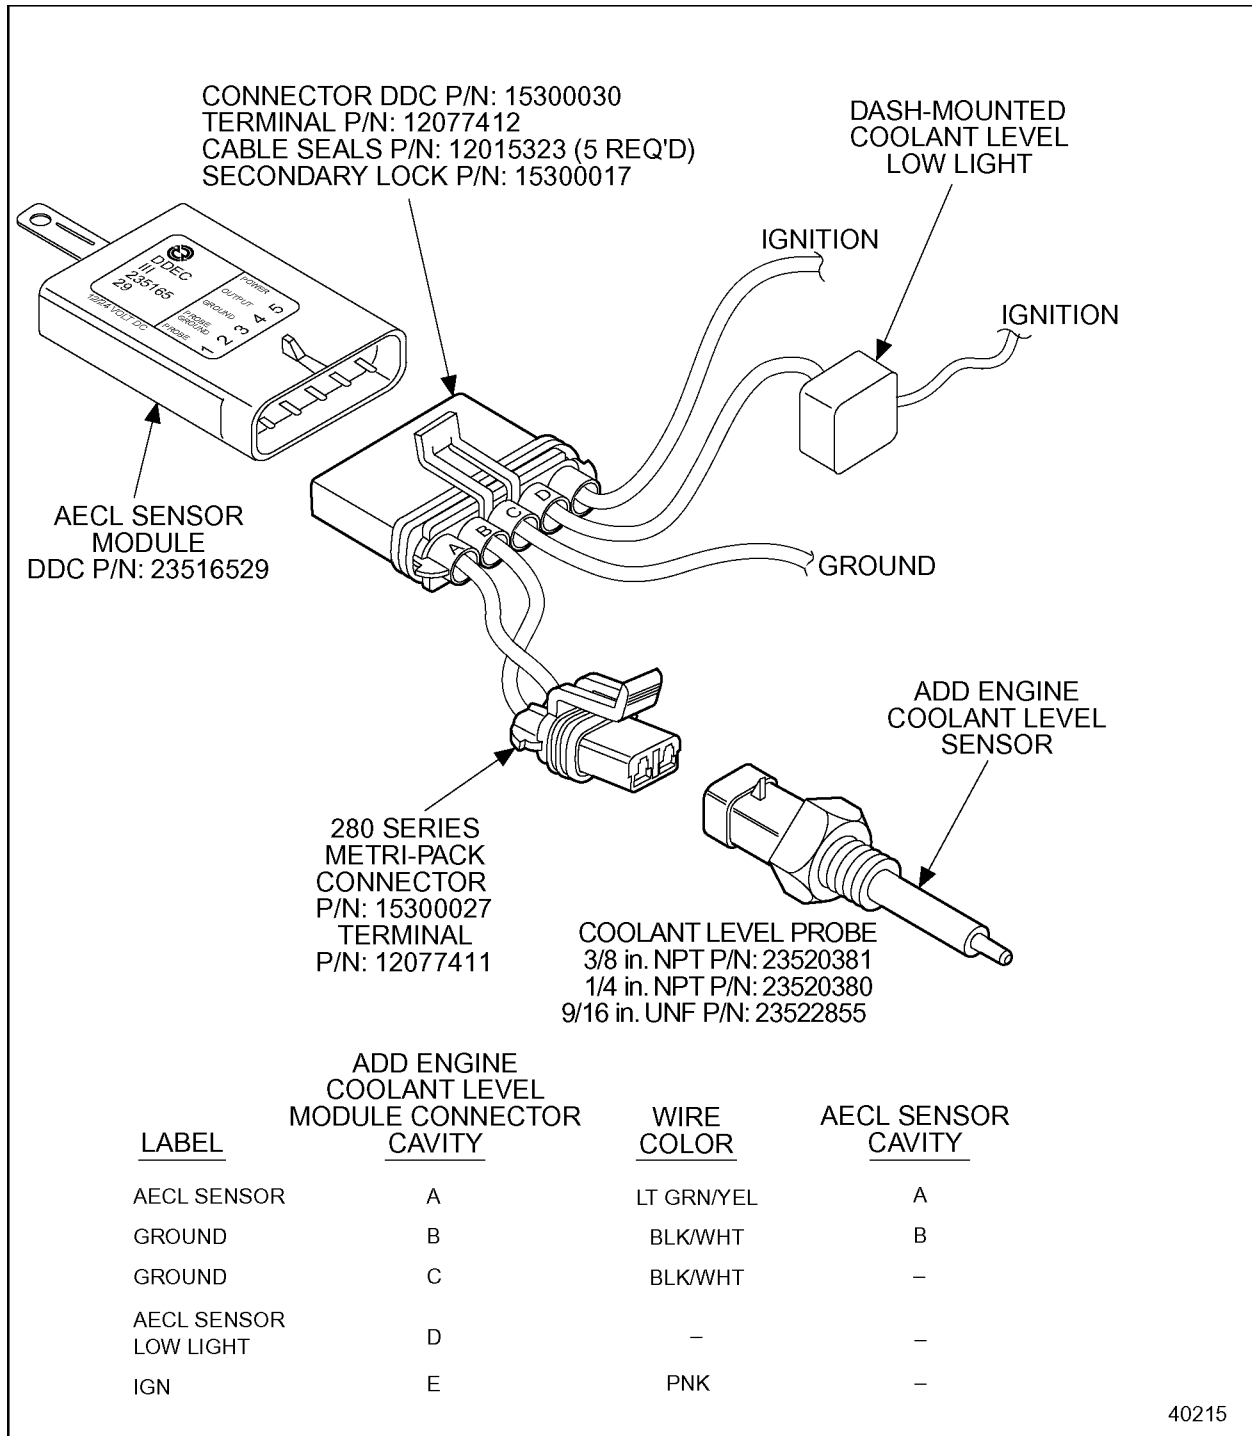

Figure 22-4 Add Engine Coolant Level Sensor with Dash-mounted Lamp
2. Measure voltage between cavities E and C of the ACLS/AECL Sensor module connector. See Figure 22-4.
3. Measure resistance between cavities D and G of the ACLS/AECL Sensor module. See Figure 22-4.